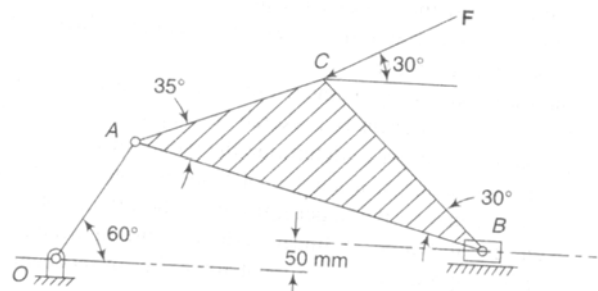

Figure 1
9. For the mechanism shown in Fig. 1, find the required input torque for the static equilibrium. The lengths OA and AB are 250 mm and 650 mm respectively. $F = 500 \text{ N}$. (68 N.m clockwise)